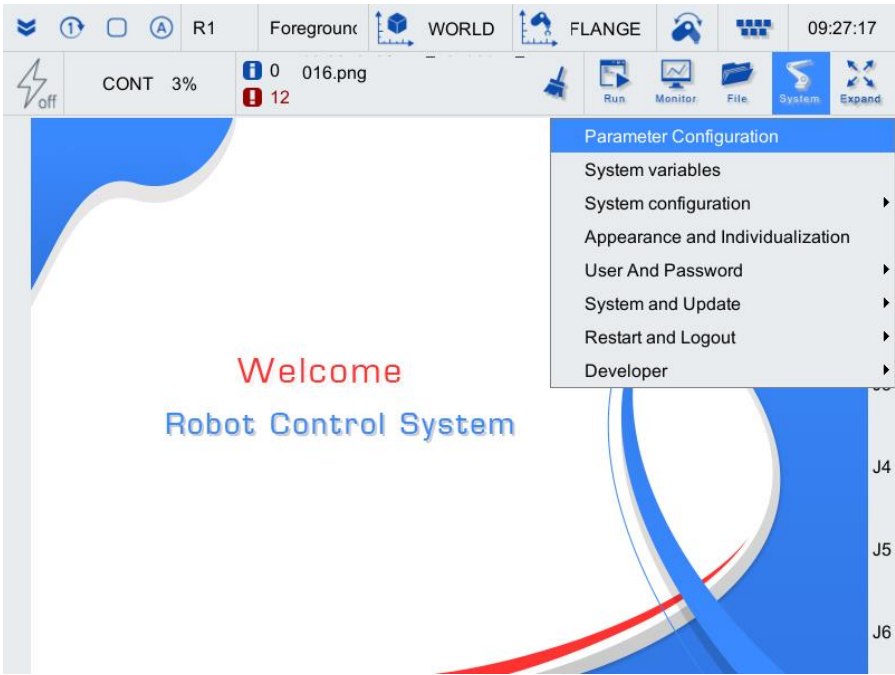

Figure 5-3 System related dropdown list
Step2. Click on [System/Parameter Configuration] in the upper right corner menu area, as shown in Figure 5-3.